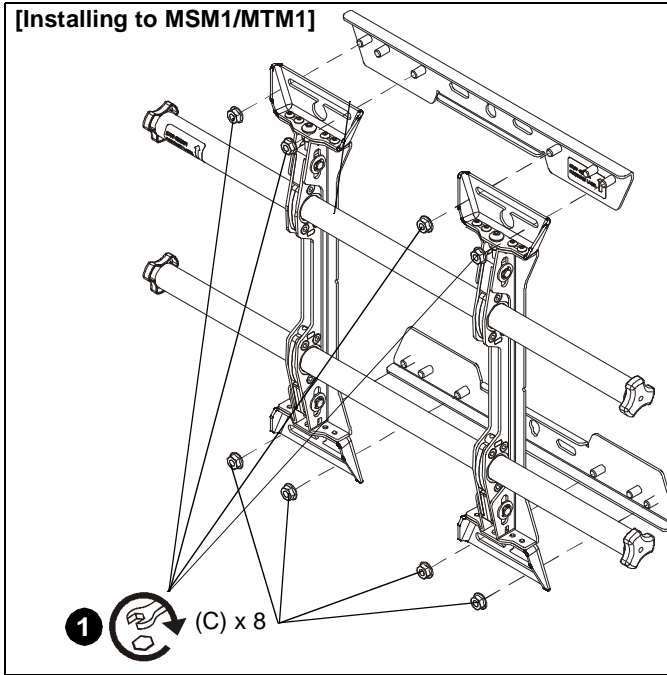
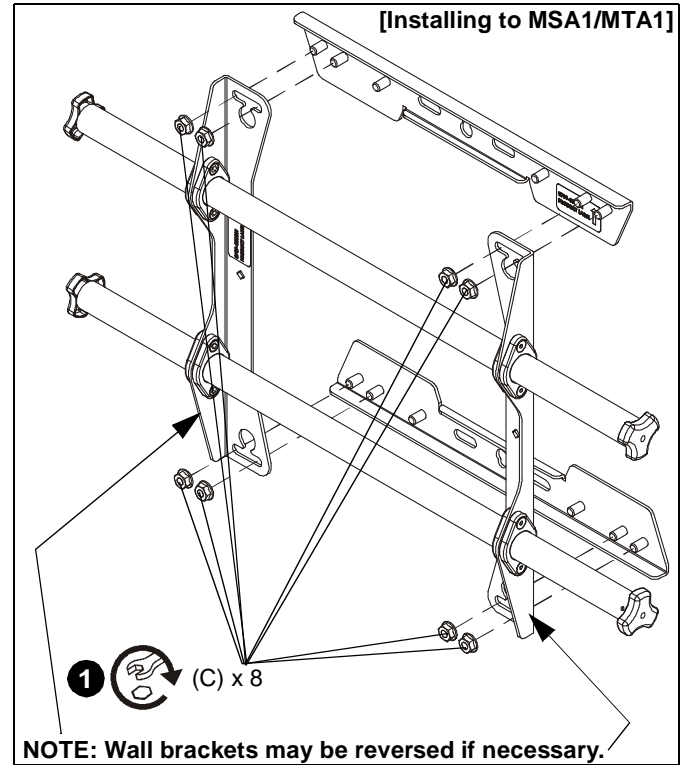

Figure 1
Figure 2
1. Assemble the single stud brackets-upper and lower-(B) to the MSM1/MTM1 (See Figure 1) or MSA1/MTA1 mount (See Figure 2) using eight 5/16" hex nuts (C).